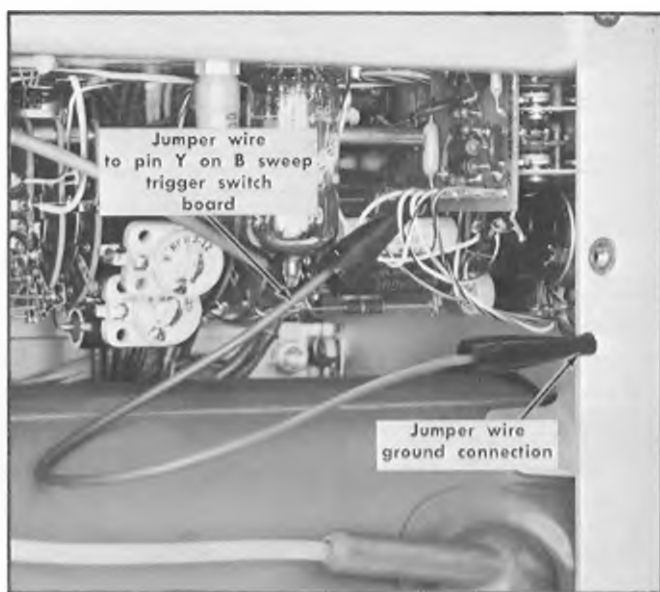

Fig. 6-27. Illustrating method of connecting jumper wire to adjust triggering.
c. Disable the B Triggering LEVEL control by connecting a short jumper wire from chassis ground to connecting pin Y on the B Triggering Switch circuit board. See Fig. 6-27.
q. Remove the test probe from the B Triggering circuit and connect it to the corresponding point in the A Triggering circuit, as in step (c) and (i). See Fig. 6-27. Remove the jumper wire from the B Triggering circuit and connect it between chassis ground and pin Y on the A Trigger Switch board. (Use Fig. 6-27 as a guide to illustrate corresponding connections.)